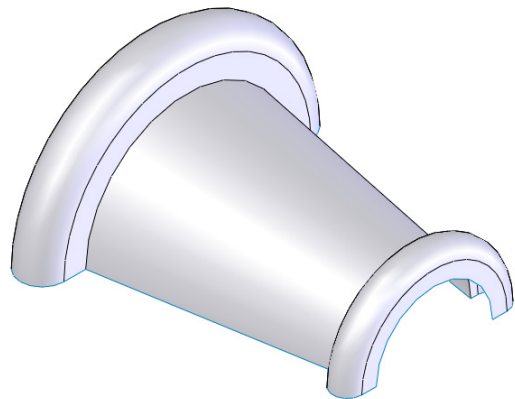

Figure 1-120 Revolved base surface
5. Choose the **OK** button from the **Surface-Revolve PropertyManager**. Figure 1-120 shows the resulting revolved base feature.